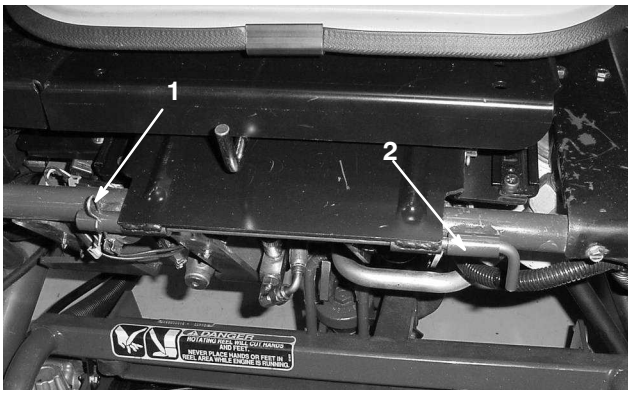

Figure 8
8. Install the seat assembly in the operating position (Fig. 8). Install the seat pivot rod and roll pin.